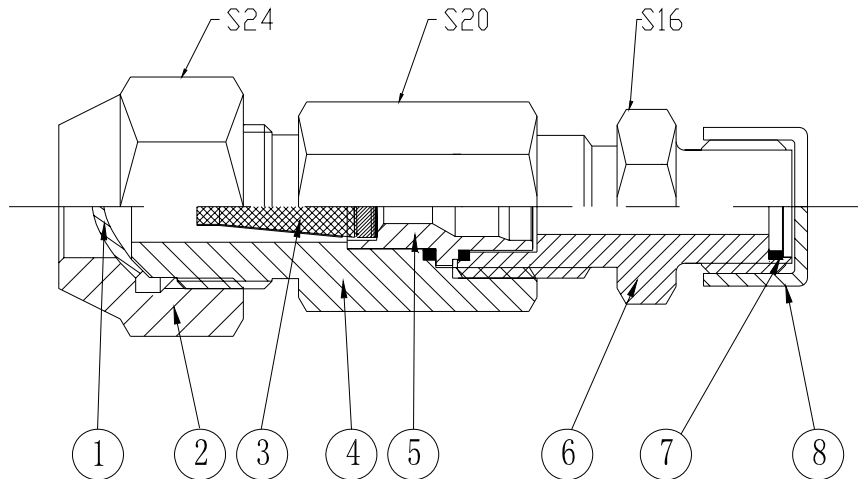

Fig.3.1.1
- ◆ During connection, remove the plastic seal cap at one end of the throttle valve (Part 8 in the above figure 3.1.1)